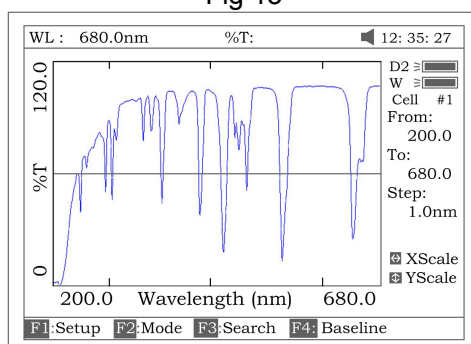

Fig 14
1. The key **【ENTER】** be pressed, the file selected will be loaded and displays on the screen. Fig 14.
✧ Press the key **【SAVE】** in Fig14 to save curve.